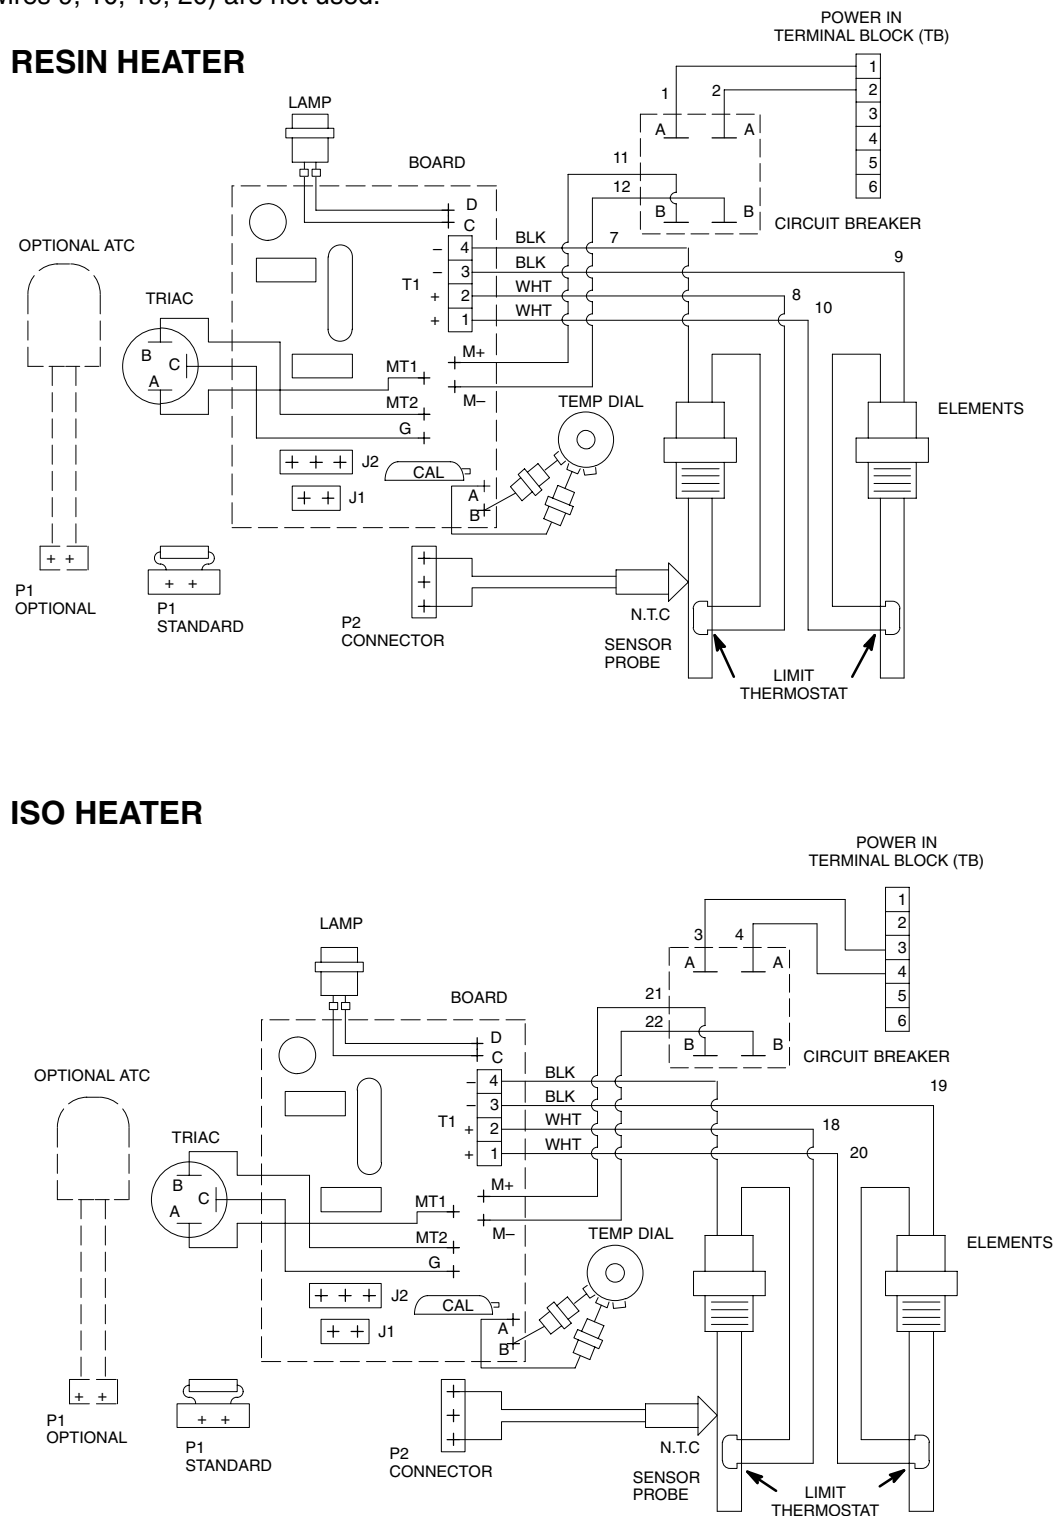

Fig. 10
1. Measure the incoming voltage on the junction box power in terminal block from pins 1 to 2, pins 3 to 4, and pins 5 to 6. See Fig. 10 or 11, pages 21 and 23. Voltage must read 200 to 240 VAC rms between each set of pins.
TEMP SET dial wires not connected	Check wiring. See Fig. 10, page 21.
3. Unplug the connector P1 at position J2 on the heater circuit board in question. See Fig. 10.
2. To check continuity from inside the wiring junction box, remove the wires from connector T1 and check continuity across the wires. See Fig. 10.
Heater No. 235840 is shown in Fig. 10. The wiring for Heater No. 235839 is identical *except* the second set of elements (wires 9, 10, 19, 20) are not used.
3. Unplug the connector P1 at position J1 on both heater circuit boards and the hose circuit board. See Fig. 10 and 11.
4. Check the resistance across wires 7 and 8, and 9 and 10, on the RES board. Check the resistance across wires 17 and 18, and then 19 and 20 on the ISO board. The resistance should be as follows. If an open conditions exists, check the hi-limit thermostat. See Fig. 10, page 21.